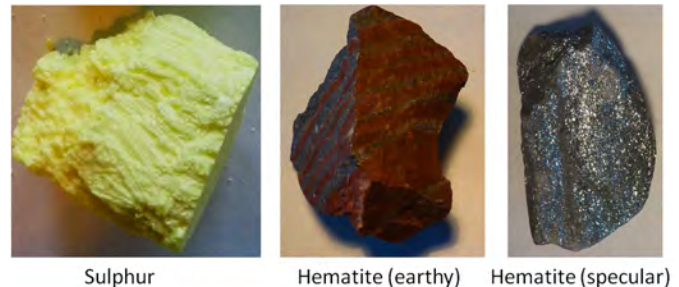

Figure 2.3.1 Examples of the colours of the minerals sulphur and hematite.
Lustre is the way light reflects off the surface of a mineral, and the degree to which it penetrates into the interior. The key distinction is between **metallic** and **non-metallic lustre**. Light does not pass through metals, and that is the main reason they look “metallic” (e.g., specular hematite in Figure 2.3.1 and pyrite in Figure 2.3.4b). Even a thin sheet of metal—such as aluminum foil—will not allow light to pass through it. Many non-metallic minerals may look as if light will not pass through them, but if you take a closer look at a thin edge of the mineral you can see that it does. If a non-metallic mineral has a shiny, reflective surface, then it is called “glassy” (Figure 2.3.4a). If it is dull and non-reflective, it is “earthy” (see earthy hematite in Figure 2.3.2). Other types of non-metallic lustres are “silky,” “pearly,” and “resinous.” Lustre is a good diagnostic property since most minerals will always appear either metallic or non-metallic. There are a few exceptions to this (e.g., hematite in Figure 2.3.2).
- Figures 2.3.1, 2.3.7: © Steven Earle. CC BY.